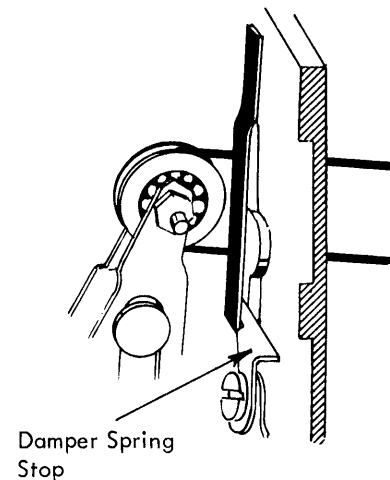

FIGURE 124. Damper, Spring Stop - Preliminary Adjustment
- Damper spring stop - as a preliminary adjustment, slide the damper spring stop down as low as it will go behind the damper spring (Fig. 124).